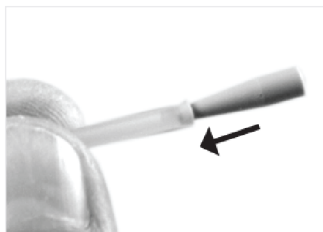
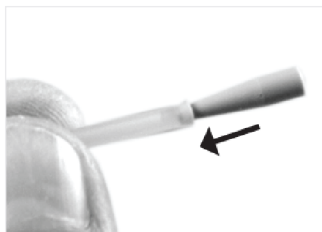

FIG. 6
FIG. 7
1. The conical piece provided can be useful for connecting the cooling tube to the unit tube (FIG. 6 & FIG. 7).